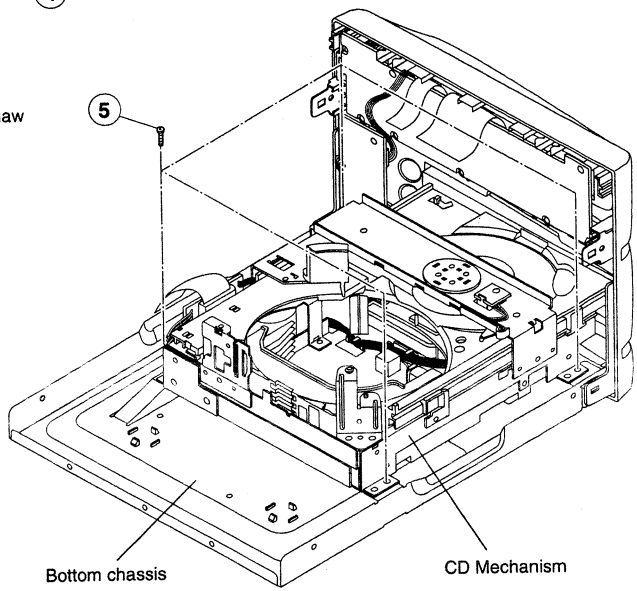

Fig. 18
- (1) Remove 2 screws ⑦ from (side of) front panel. Then remove the brackets from the front panel by releasing the claws that hold the brackets to the front panel together.
5. Removal of CD Mechanism (Fig. 18)